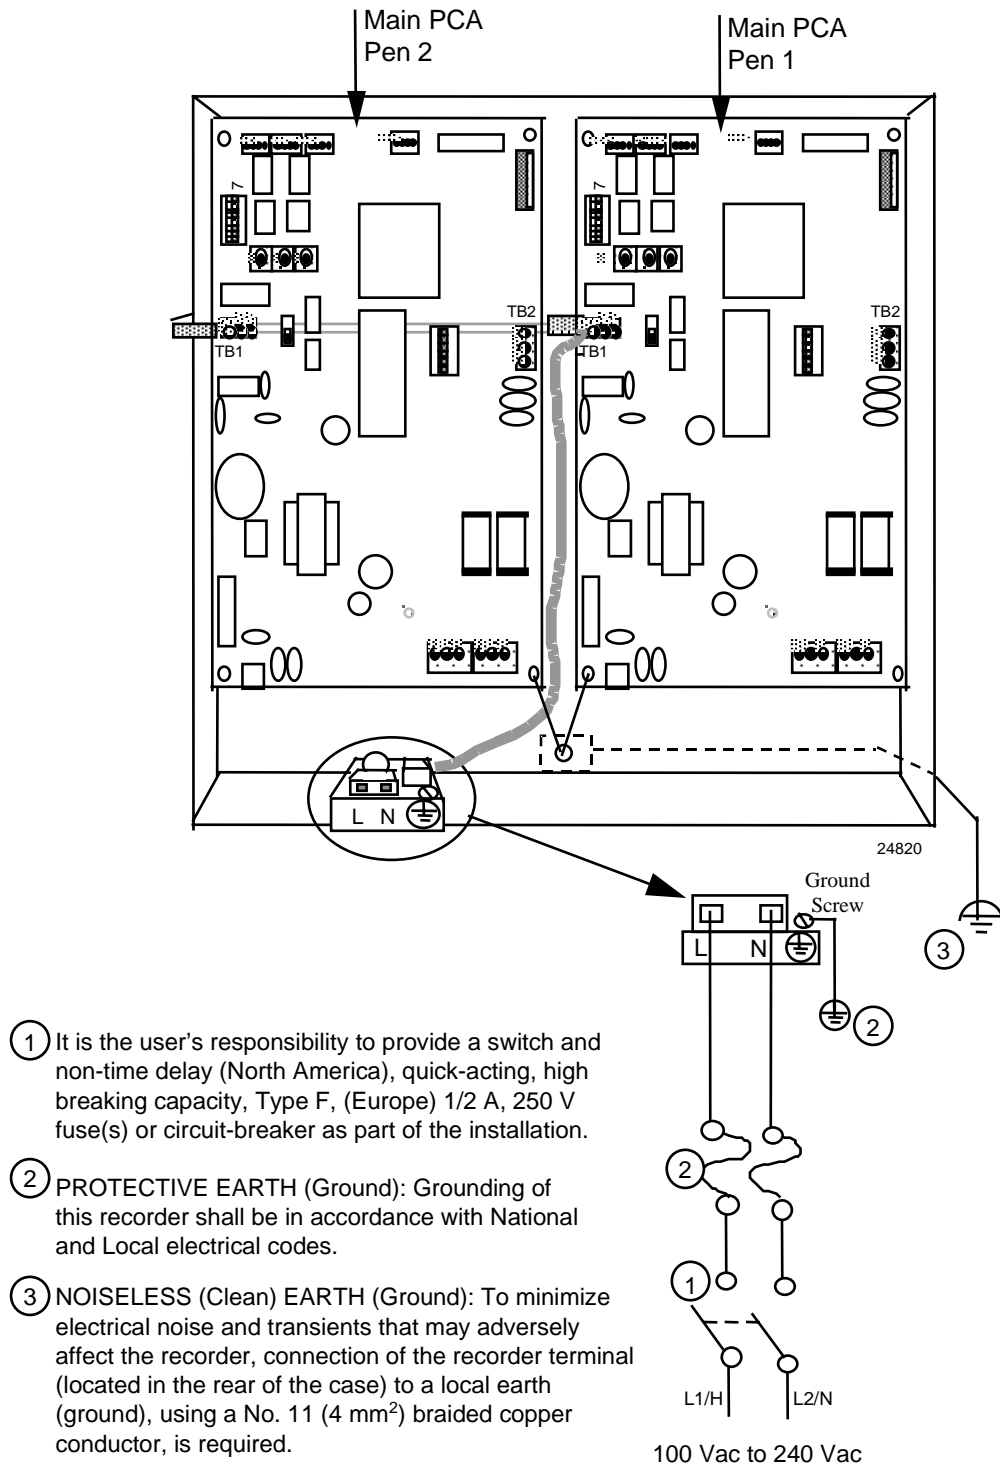

Figure 2-10 Power Wiring – Models With CE Mark
Power Wiring - Models With CE Mark	Figure 2-10
- Figure 2-10 for models with CE Mark.
2	<p>Locate the power terminal block for your recorder model.</p> <ul style="list-style-type: none"> • See Figure 2-9 for models without CE Mark. • See Figure 2-10 for models with CE Mark. <p>Note that the power connection between the boards on two-pen models is made at the factory. On CE Mark and UL models the connection between the terminal block at the bottom of the case and the PCA is also made at the factory. In all models, you only have to connect power to a single terminal block.</p>
ATTENTION: To avoid damaging the recorder, be sure that you install the power wires into the correct screw terminals as shown Figure 2-9 and Figure 2-10.
ATTENTION To avoid damaging the recorder, be sure that you install the power wires into the correct screw terminals as shown in Figure 2-9 and Figure 2-10.
ATTENTION To avoid damaging the recorder, be sure that you install the power wires into the correct screw terminals as shown Figure 2-9 and Figure 2-10.